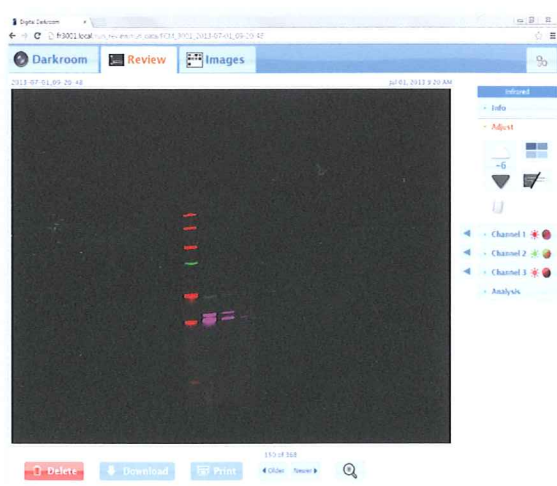

Figure 8
1. Select the **Download** button in the **Review** tab (Figure 8).